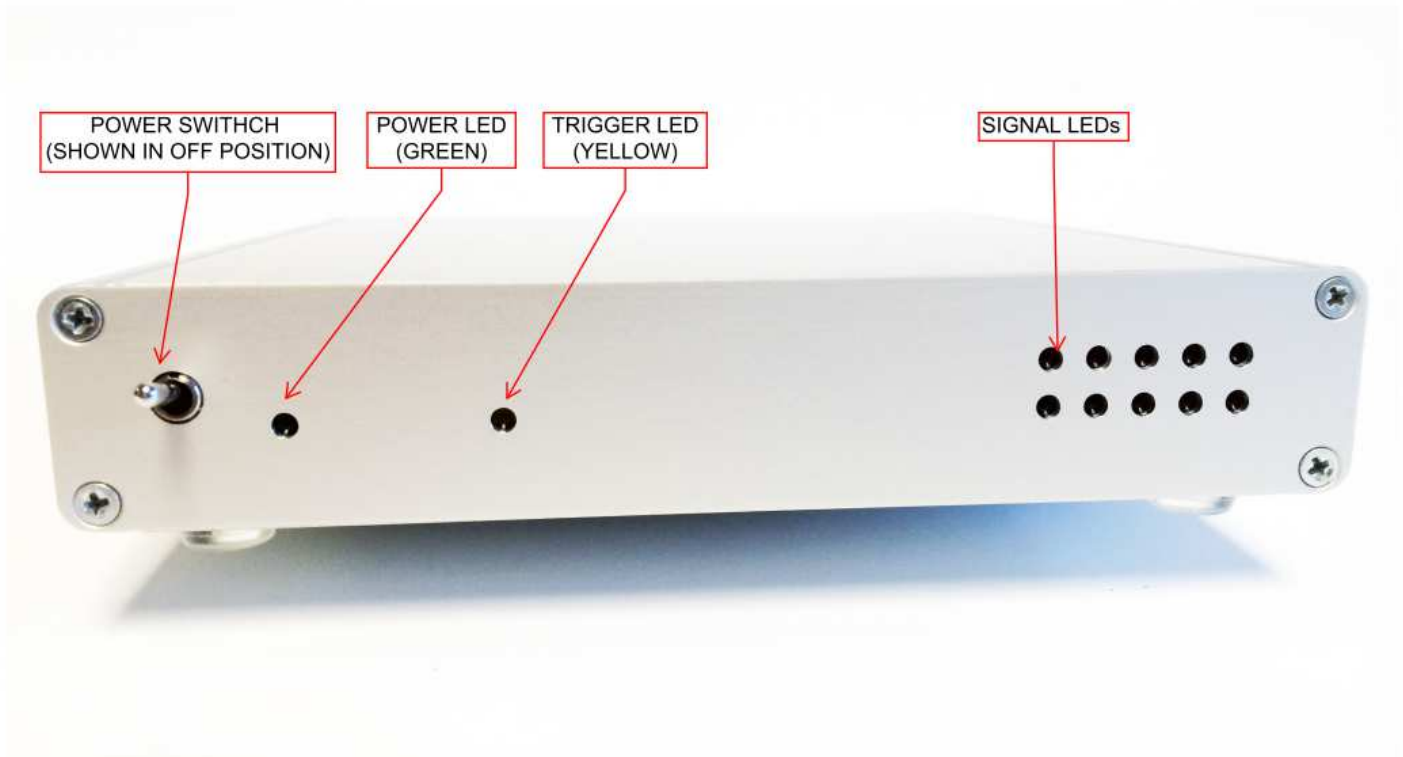

Fig3: Front of the Converter CON-004
- 8) You can now turn the switch at the front of the Converter to its ON position, by pushing the switch DOWN. Refer to Fig 3.
- 9) The green LED will turn on in the front. Refer to Fig 3.
- 12) On the front panel of the converter unit the "red" LED's will flash when any key is pressed. If the LED's flash then the device is working properly. Refer to Fig 3.